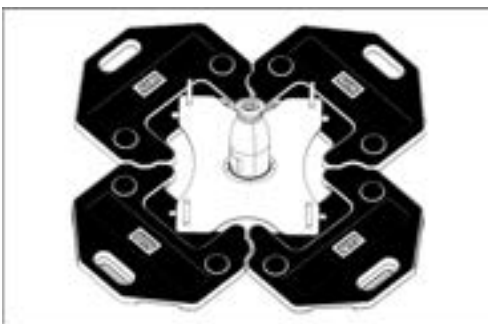

Figure 5
- b. Install the LEAP Anchor to ensure the L-bolts are oriented correctly and the D-ring on the LEAP Anchor will face the desired direction when installation is complete. See Figure 5 .